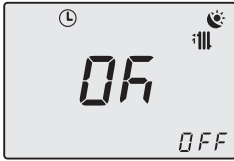

Fig. 2.21
Press key 17 briefly to save (Fig. 2.21).